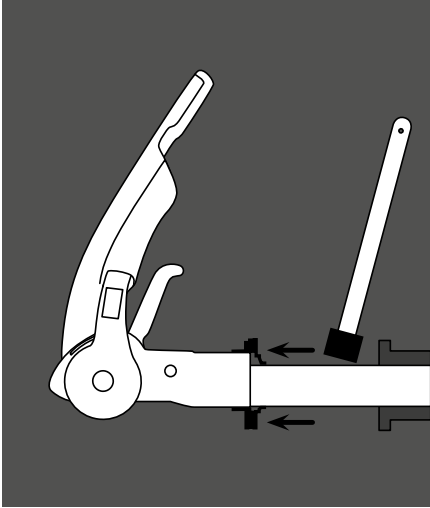

Figure 12 - Remedial action
- b. Lubricate the drawshaft sleeve via the grease nipples. In addition, push the gaiter forward and grease (DIN 51 825 KTA 3K) the exposed part of the shaft (Fig 12).